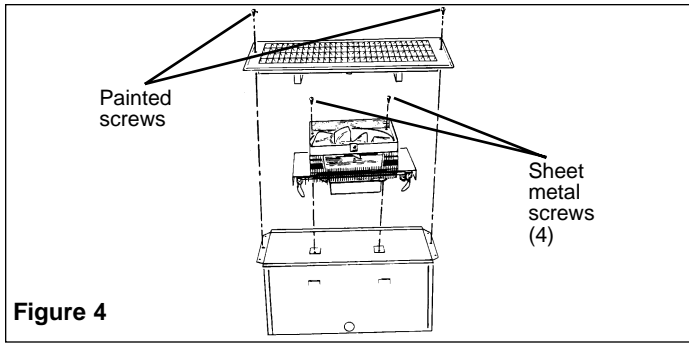

Figure 4
Slide heater assembly into the enclosure part way so the plug can be inserted into receptacle in junction box cover. After plug is fully inserted into receptacle, push heater down in position and secure with two (2) screws provided. (See Figure 4)
2. Place the grille over the enclosure and secure with the two painted screws provided as shown in Figure 4. (See Warning No. 7).